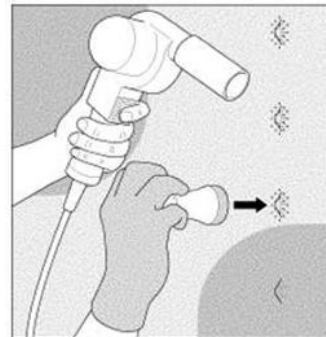

Figure 11. Heating Rivets and Using MPP-1
7. When the vinyl around a rivet is warm and limp, firmly press the CMP-1 directly over the rivet and hold for one or two seconds to mold the film around the rivet. Do NOT twist the tool. See Figure 11.